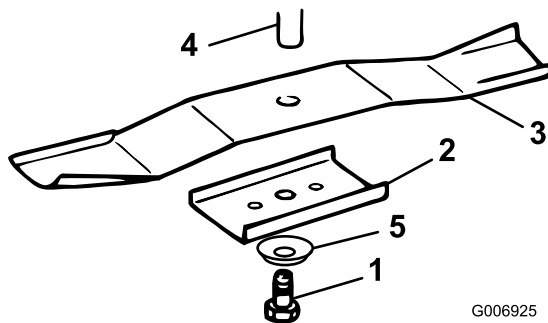

Figure 32
3. Remove the bolt (5/8 inch wrench), curved washer, retainer, and blade (Figure 32). Use a block of wood as a wedge between the blade and the mower to lock the blade when you are removing the bolt.
1. Install each blade, blade retainer, curved washer (cupped side toward blade), and the blade bolt (Figure 32).